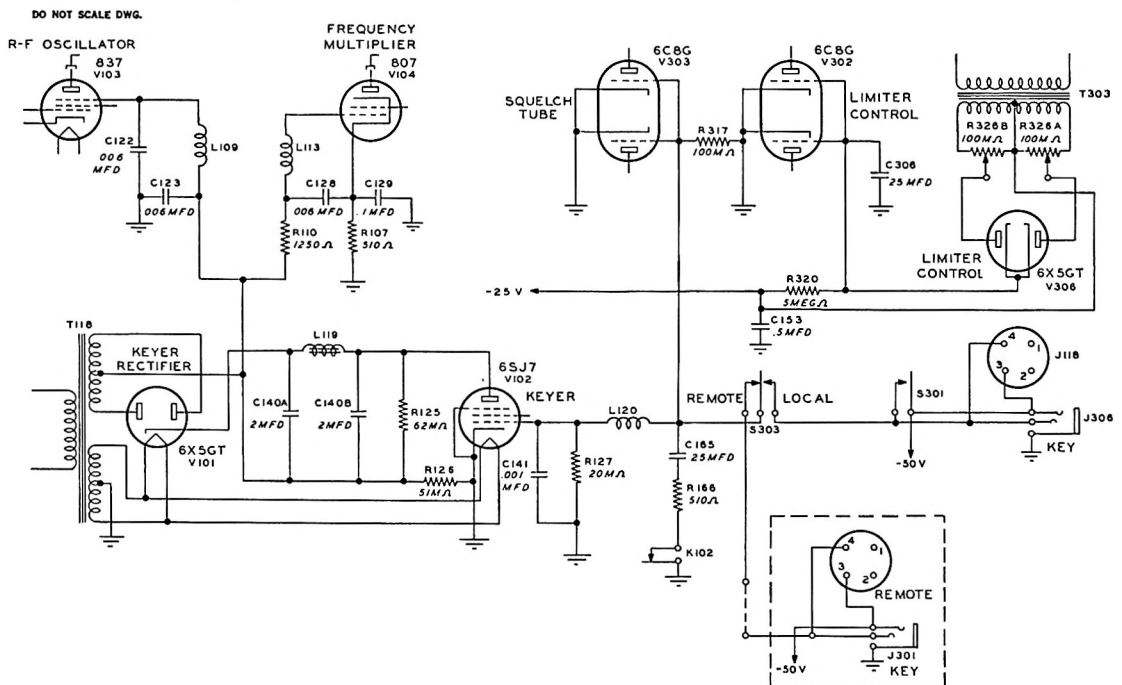

Figure 13. Simplified Carrier Control Circuits
**2.8. KEYING AND CARRIER CONTROL.** Refer to the diagram of the simplified carrier control circuits, figure 13. When the grid of the keyer tube is at ground potential, the tube is in a conducting condition and the